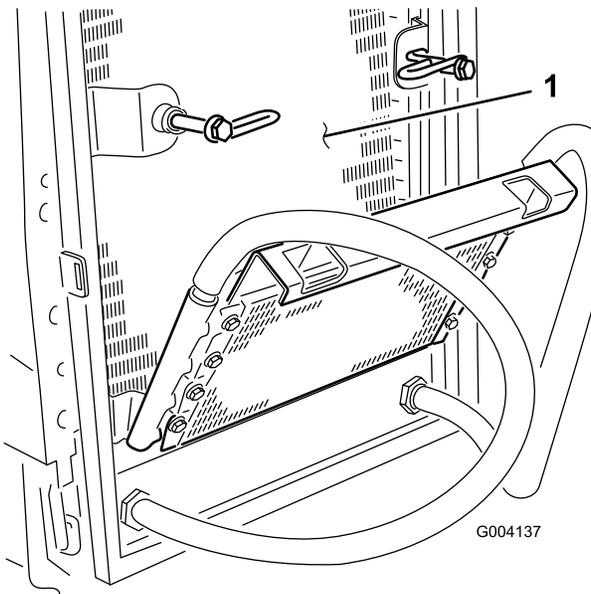

Figure 107
8. Thoroughly clean both sides of the oil cooler and the radiator (Figure 107) with compressed air.